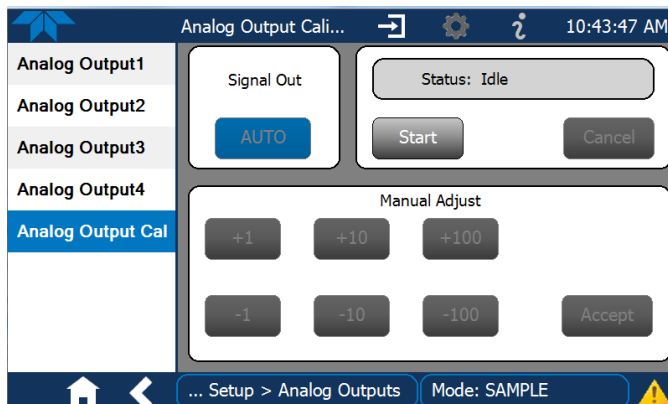

Figure 2-48. Analog Outputs Group Calibration Screen
- AUTO for group calibration (Figure 2-48) of the analog outputs (cannot be selected when Current is selected for the Range)